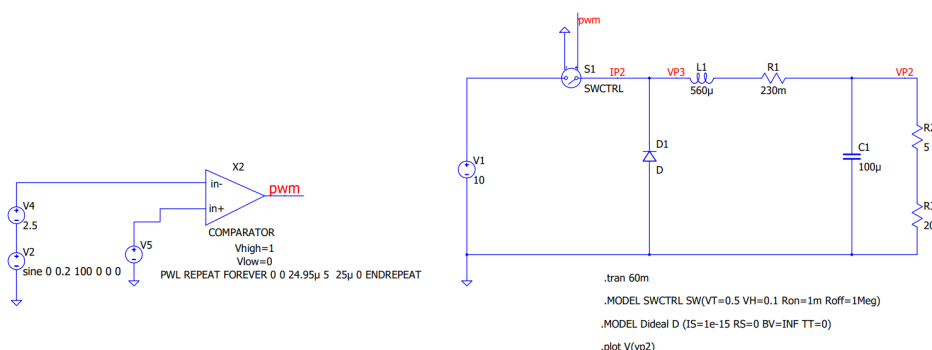

Figure 8: QSpice schematic: Buck converter with pulse width modulator driven by a sinusoidal voltage source.
4. K_{vd} : To determine constant K_{vd} we'll use a different input to that of task (3). A sinusoidal input at a low frequency, much lower than the low pass filter corner frequency, will drive the input of the modulator and the resulting sinusoidal output voltage of the converter will be monitored. To be clear about this, determine the filter corner frequency expressed in Hz . The sinusoidal source is attached as shown in Figure 8
- Open the QSpice circuit file that includes a sinusoidal voltage source at the control input of the PWM comparator (e.g., shown in Figure 8).
- **Sinusoidal Source Parameters** (e.g., V2 in Figure 8):
- *DC offset:* 2.5V (This is crucial. The control voltage $v_c(t)$ should be $V_{\text{control_DC}} + \hat{v}_c(t) \sin(\omega t)$. In the QSpice schematic shown in Figure 8, a DC source like V4 provides the 2.5V DC offset, and an AC source like V2 provides the sinusoidal variation. These are summed at the comparator input, effectively creating $v_c(t) = 2.5V + 0.2V \sin(2\pi \cdot 100t)$.)
- Add a plot of the output voltage (e.g., V(vp2) if that's the output node in Figure 8).